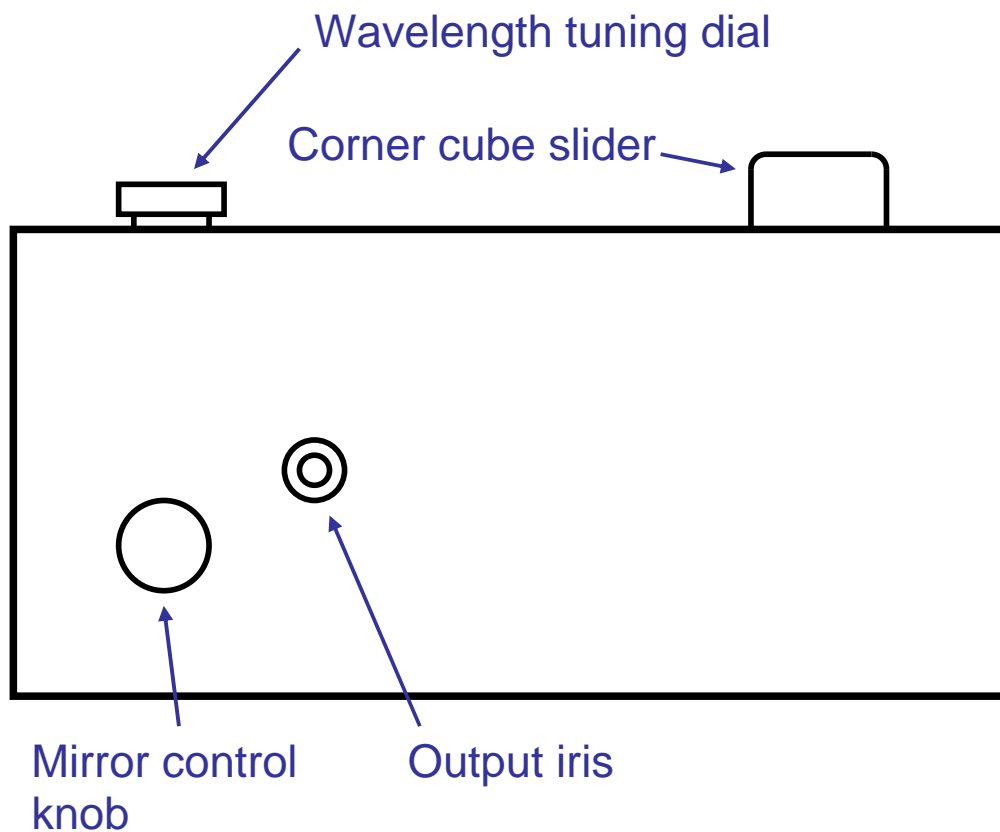

Fig. 1. Right side view of the BOA.
2. Rotate the mirror-control knob located on the right side of the BOA to the OUT position. (see Fig.1) This moves the BOA's first and last steering mirrors out of the beam, so you can align your beam into the BOA. The goal will be to send your beam straight through the BOA, which should correspond to the approximate correct alignment.
8. Rotate the mirror control knob (see Fig. 1) to the IN position, moving the BOA mirrors back into position.